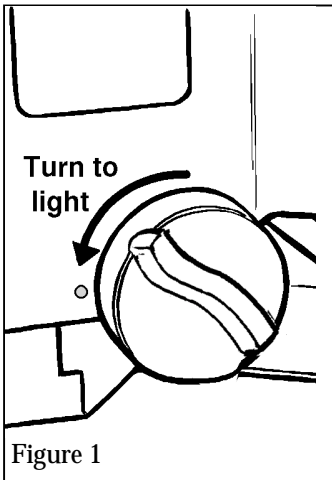

Figure 1
1. This fire is controlled by a 4 position gas tap mounted on the front leg of the appliance (see Fig 1). In addition to the OFF position there is a pilot light and 2 heat control settings.